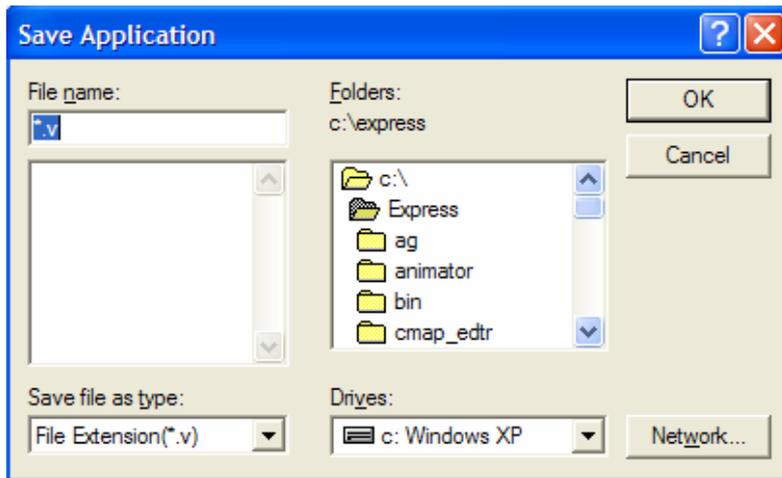

Figure 2.19: **Save Application** File Browser
- A file browser will appear showing the files in the current working directory (Figure 2.19). Use the file browser to change the current directory to a directory suitable for saving the file in. (It is best to save networks in your home directory.)